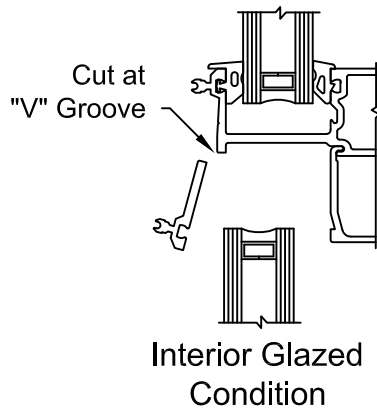

FIGURE 49
- R.2 Remove lower section of upper horizontal as shown in FIGURE 49, page 42.
- R.7 Remove pressure plate and isolator gasket from top of damaged lite at exterior glazed . AT interior glazed; remove lower section of upper horizontal. SEE FIGURE 49, page 42.